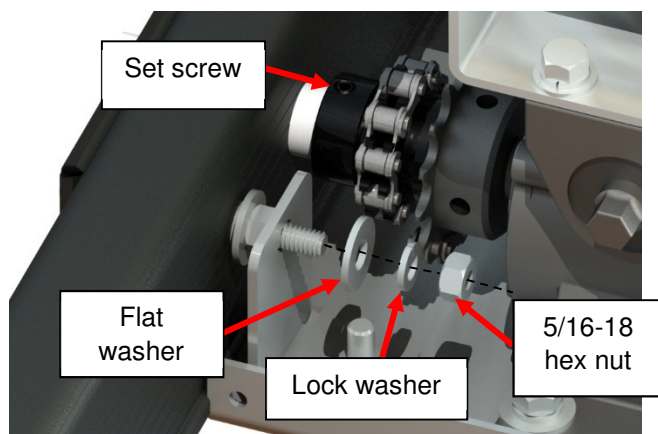

Figure 84
- 19) Fasten the operator to the two bolts of the long U-frame with a 5/16 in. flat washer, 5/16 in. lock washer and a 5/16-18 hex nut. (Figure 84)
- 20) Tighten both set screws in the sprocket. (Figure 84)